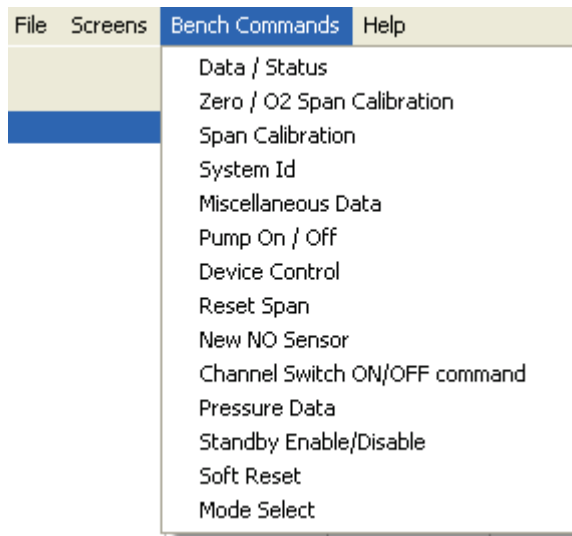

Figure 5.3 Accessing the fuses
3. Remove the fuses from the holders and check that they have the correct rating (T 1.6 A slow-blow), see figure 5.3.